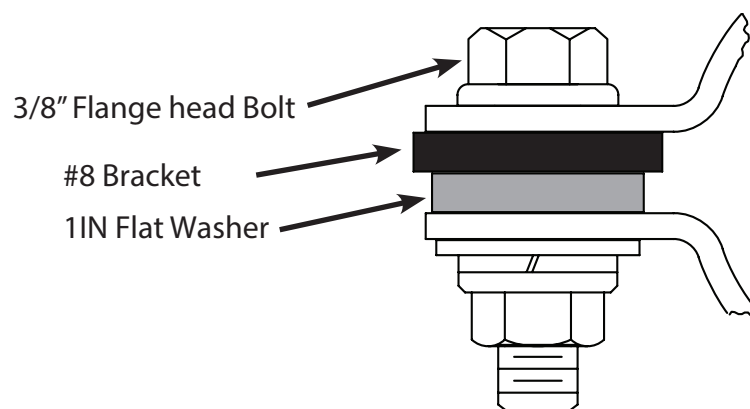

FIGURE 4
19. Install a 3/8" lock washer (supplied) on the 3/8"-16 x 3" socket cap screw (supplied) Using this bolt re-install the floor board with one 1" spacing washer (supplied) on the forward (right) mount. (Figure 4) **NOTE:** Spacing washer are located between the floor board supports and floor board mount plate. On 2010-11 CVO Models, a 3/8"-16 x 1-1/2" socket cap screw (not supplied) should be used from the inside on the right mount rather than the 3/8"-16 x 3" provided bolt.